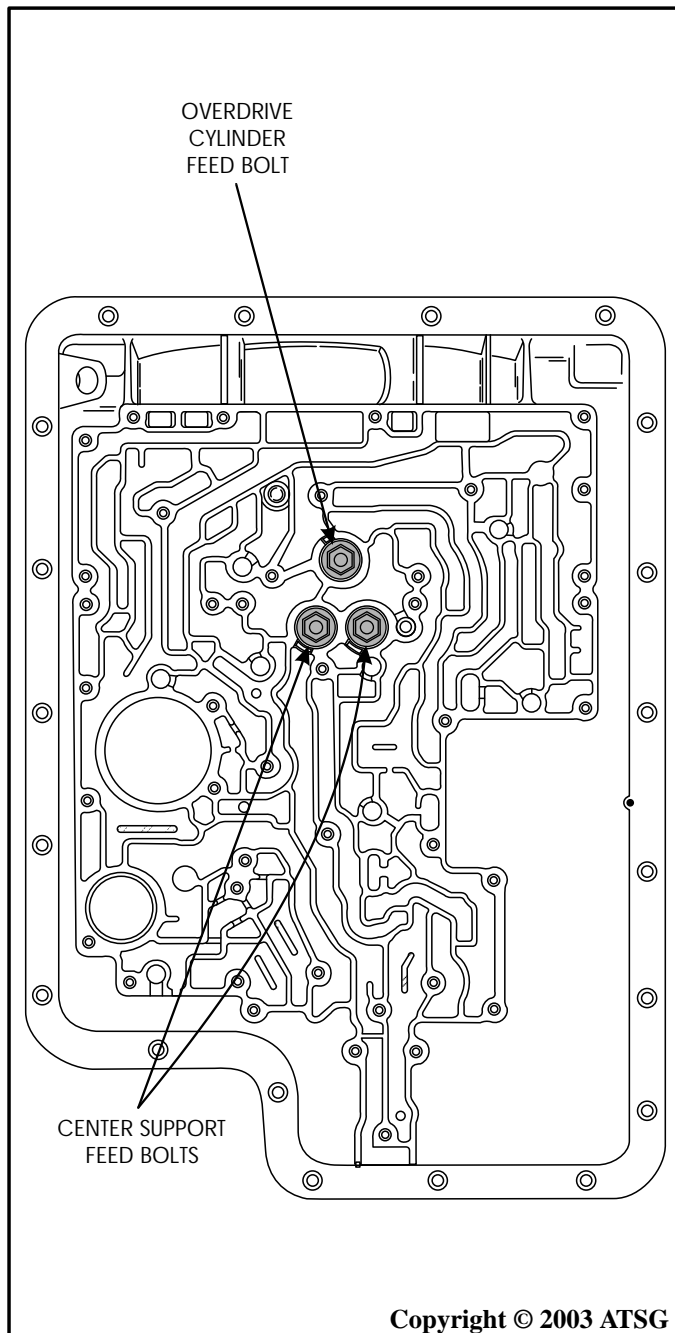

Figure 178
11. Loosely install the two center support feedbolts as shown in Figure 178.
17. Loosely install a *new* overdrive clutch cylinder feedbolt as shown in Figure 178.